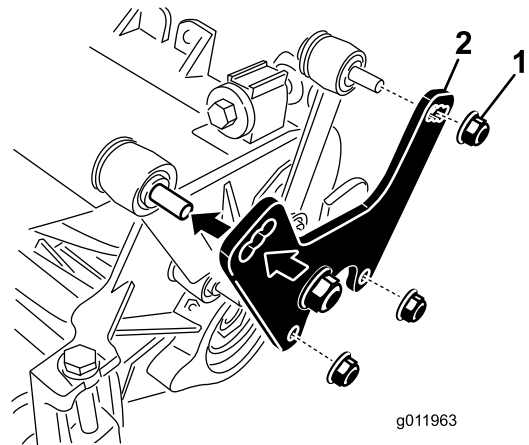

Figure 9
1. Remove the nuts and washers securing the lift links to the cutting unit side plate and carrier frame (Figure 9).